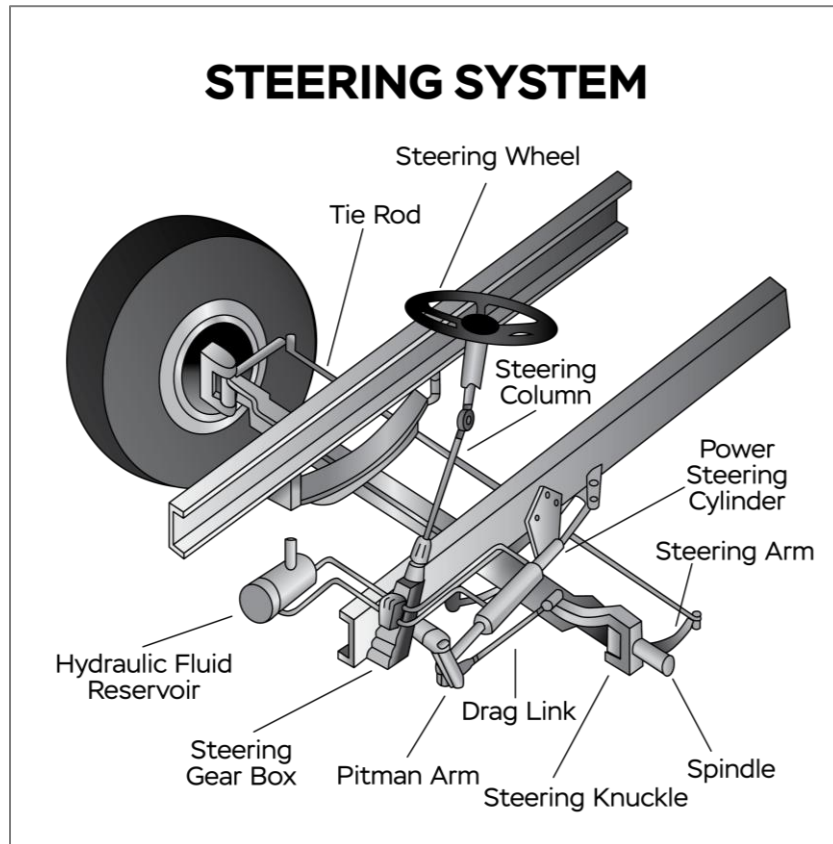

Figure 2.1
- Steering wheel play of more than 10 degrees (approximately 2 inches movement at the rim of a 20-inch steering wheel) can make it hard to steer. See Figure 2.1